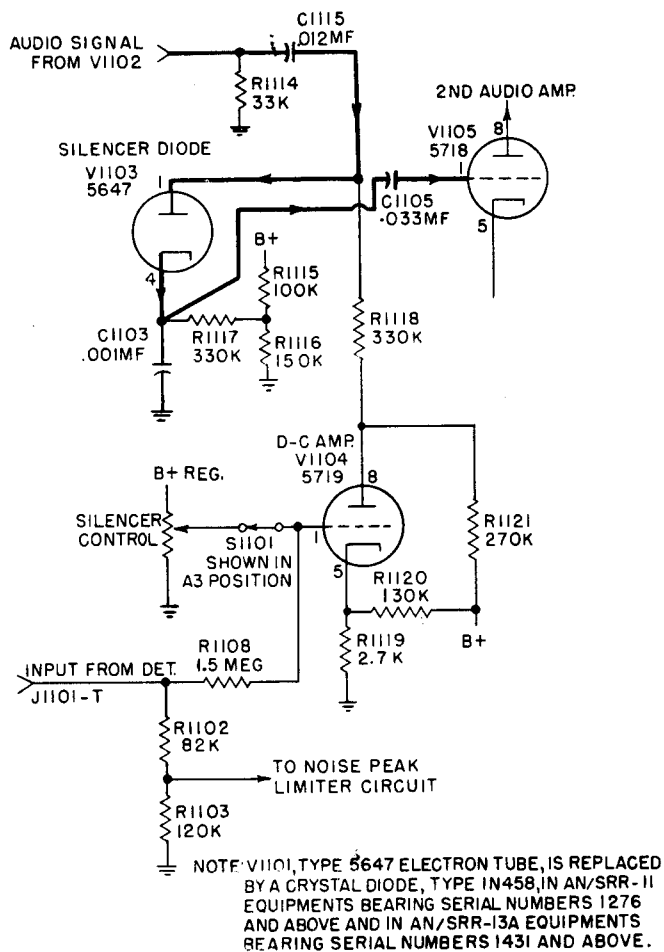

Figure 2-5. Silencer Circuit, Simplified Schematic
(2) SILENCER CIRCUIT (AN/SRR-12 and -13 only).—See figure 2-5. A silencer circuit, V1003 and